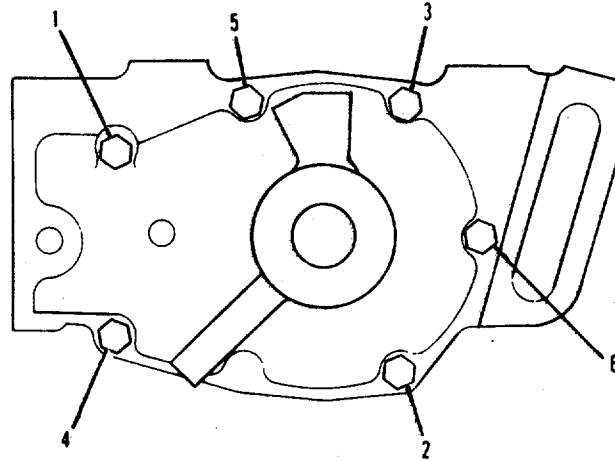

FIGURE 2-22. Bolt-Tightening Sequence.
- h. Install the cup seat (25) and gasket (26). Use the mandrel to install the cup seat.
- i. Apply one drop of Loctite to the cup seat (28). Put the drop between the shaft (39) and cup seat (28).
- j. Apply a light coat of Loctite to the bore in the drive pulley (34). Push the water pump shaft (39) into the bore until the pulley (34) is against the larger diameter (shoulder) of the shaft (39).
- k. Apply a light coat of Loctite to the bore in the impeller (30). Support the pulley end of the shaft (39). Push the impeller (30) onto the shaft (39). The clearance between the vanes of the case iron impeller (30) and the housing must be 0.020 to 0.040 inch (0.51 mm to 1.02 mm), if not, pump must be replaced.
- 1. Install water pump with six capscrews (17, FIGURE 2-21, Sheet 1). Tighten in stages in 10 ft-lbs, and 20 ft-lbs and 35 ft-lbs in the sequence shown in FIGURE 2-22.